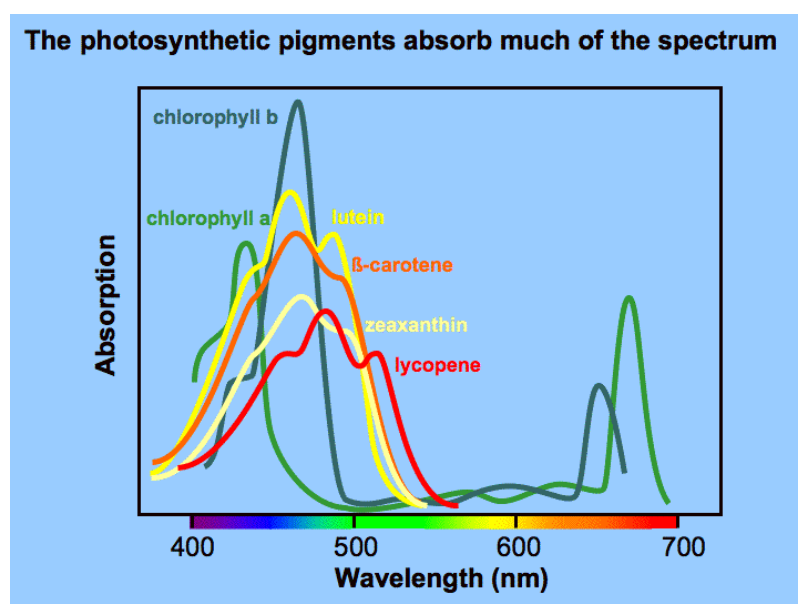

Figure 6. Absorption spectrum of photosynthetic pigments in plants
1. List the peak absorbances of each of the four pigments. Speculate on why you see the patterns that you see in the absorption spectra that you drew. For example, why did the chlorophylls peak in the violet end of the spectrum? Why did they have secondary, smaller peaks in the red end of the spectrum? Did your absorption spectrum look similar to the spectrum shown in Figure 6?